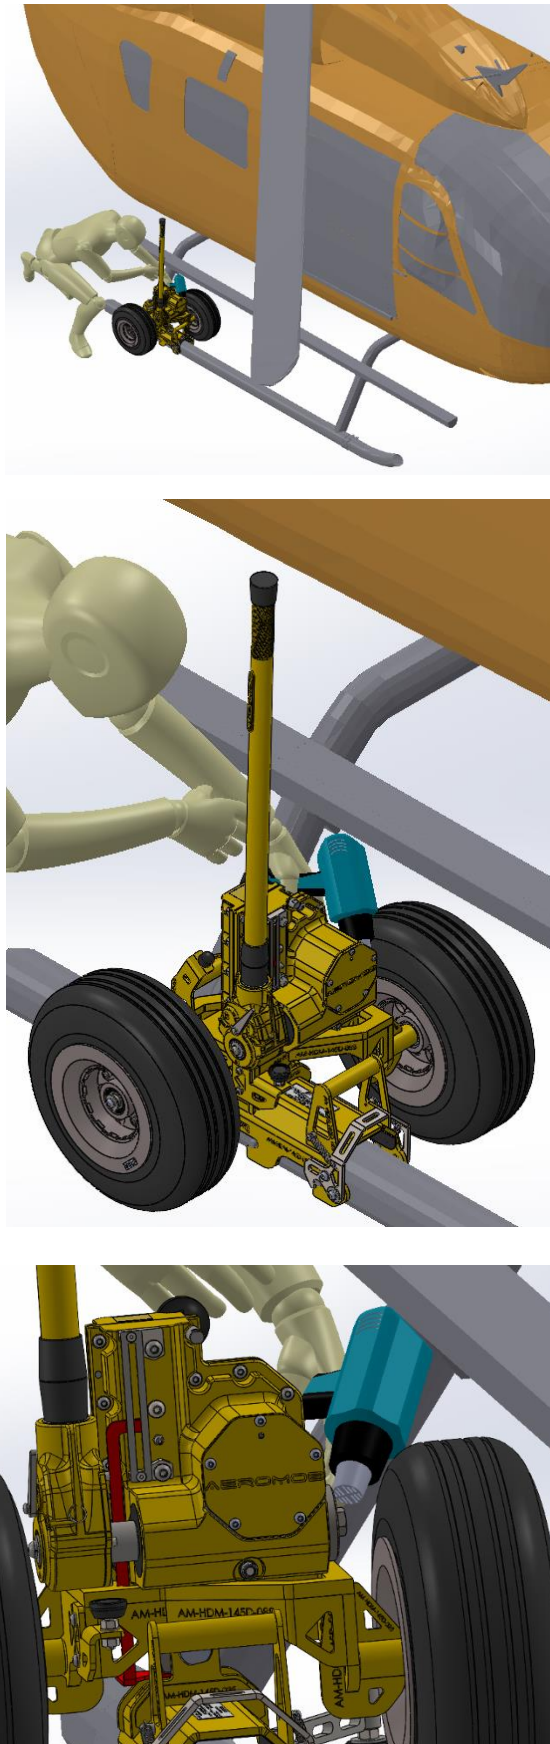

Figure 1
- a. With the equipment positioned and locked on the aircraft skid, apply a heat gun to the screw (1-4/21) for 5 minutes, being careful not to heat the tire or the equipment body. See Figure 1.